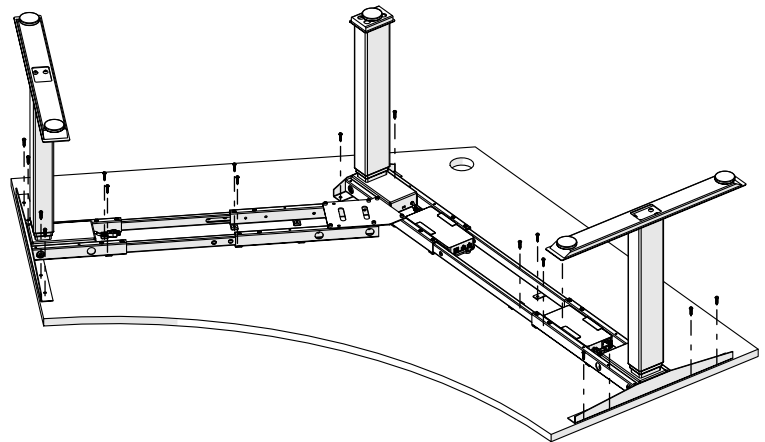

Figure 8
10. Secure the base frame to the table top with #10 X 1" Pan Head Screws, (Figure 8).